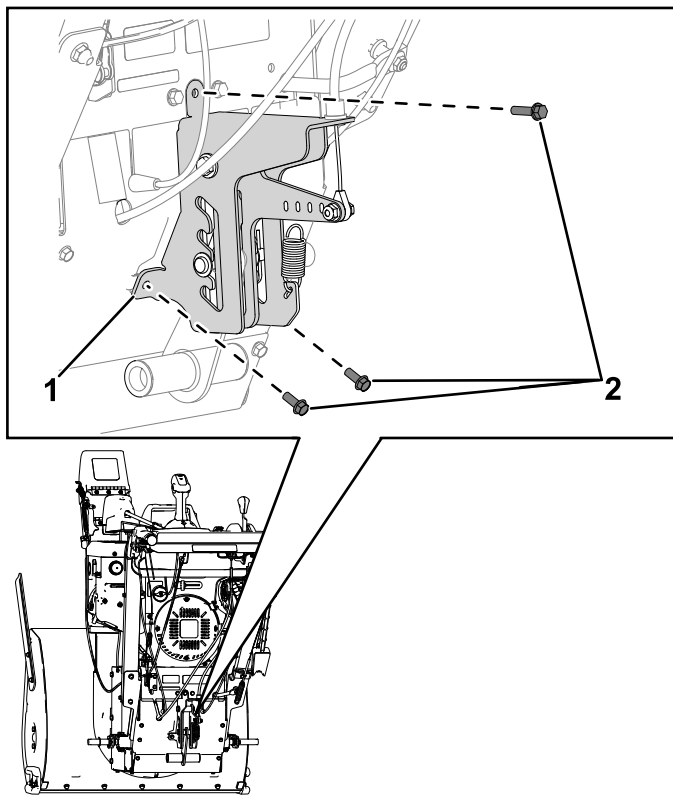

Figure 3
2. Remove the 3 screws (1/4 x 5/8 inch) securing the height adjuster bracket to the top plate and rear cover. Remove the height adjuster bracket from the plate and cover (Figure 3).